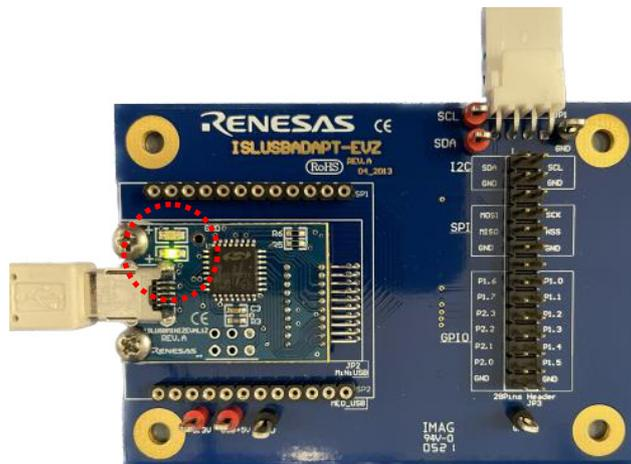

Figure 5. HID USB-I2C Interface Board
- A green LED turns ON in the HID USB-I2C interface board when the communication between the computer and the HID USB-I2C interface board is established (see Figure 5):